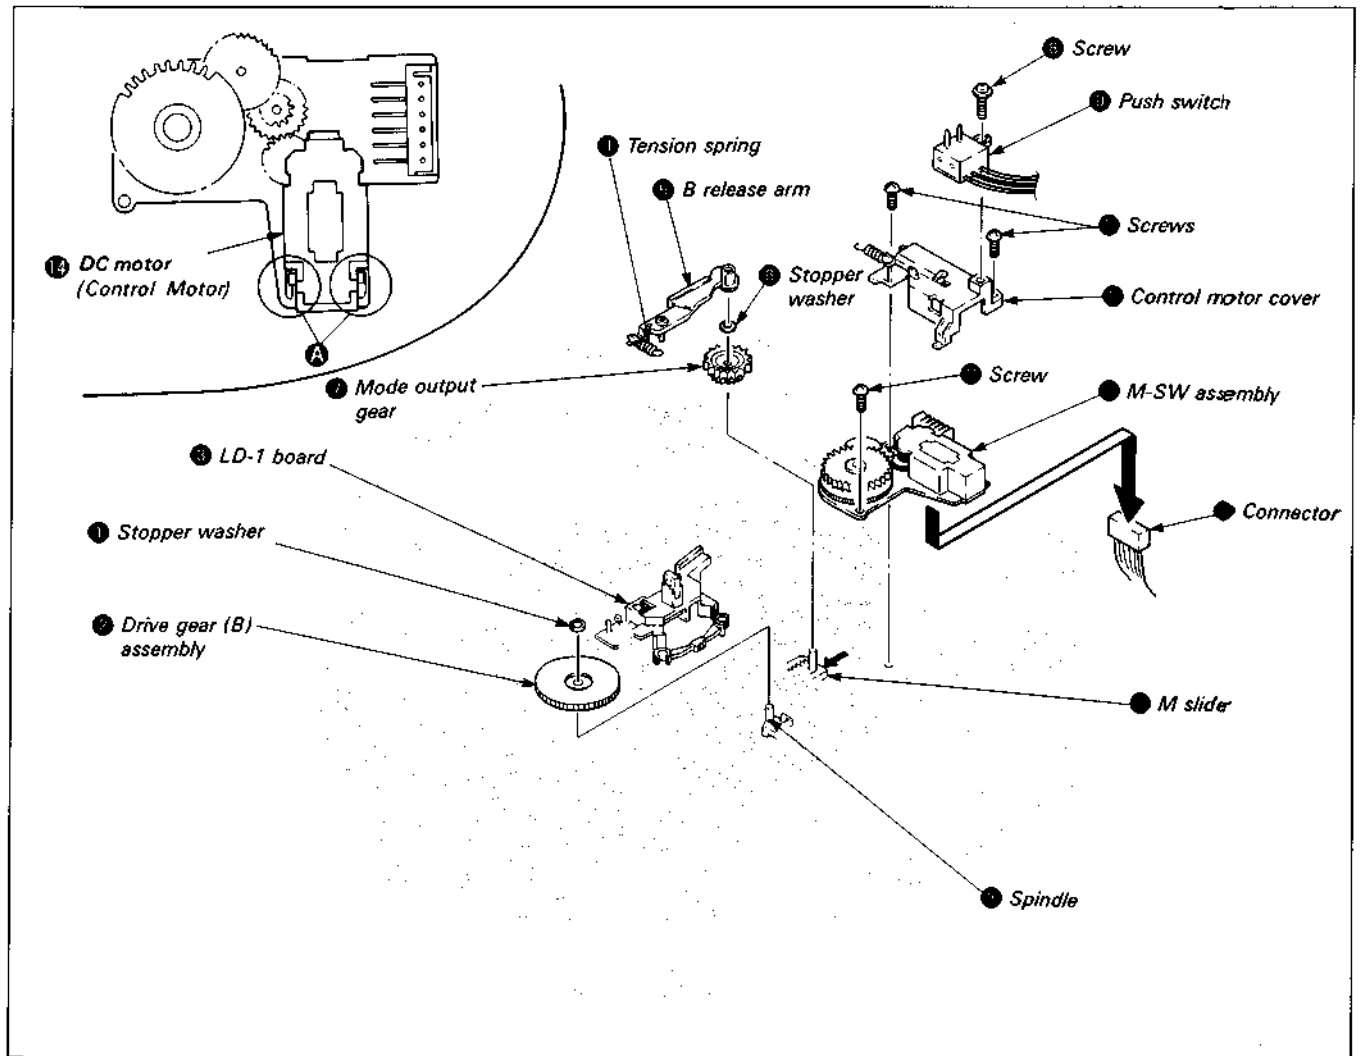

Fig. 7-38.
- 1) Solder the DC motor (Control Motor) ①.
- 2) Mount the M-SW assembly ② and the control motor cover ③, and tighten the three screws ④.
- 3) Connect connector ⑤.
- 4) Mount push switch ⑥ and tighten screw ⑦.
- 6) Check that M slider ⑧ is moved fully in the direction of arrow B.
- 7) Place a half drop of oil on spindle ⑨. (See Fig. 7-38.)